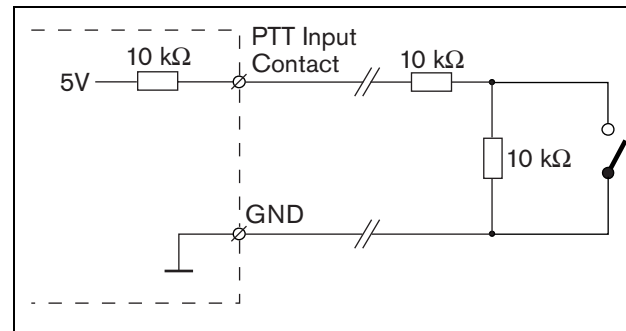

figure 15.6: Press-to-talk (PTT) key
- Press-to-talk (PTT) key. See figure 15.6 for a connection diagram. The two resistors must be placed in the circuit, because the contact is always supervised by the system software.